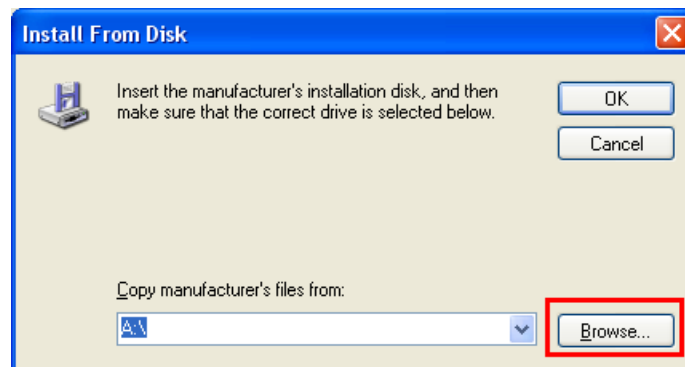

Fig. 2-10 Select the target file of driver
- 5) A dialog box named “Install From Disk” will pop up, see Fig. 2-10. Click [Browse...] button to open the target file of driver.